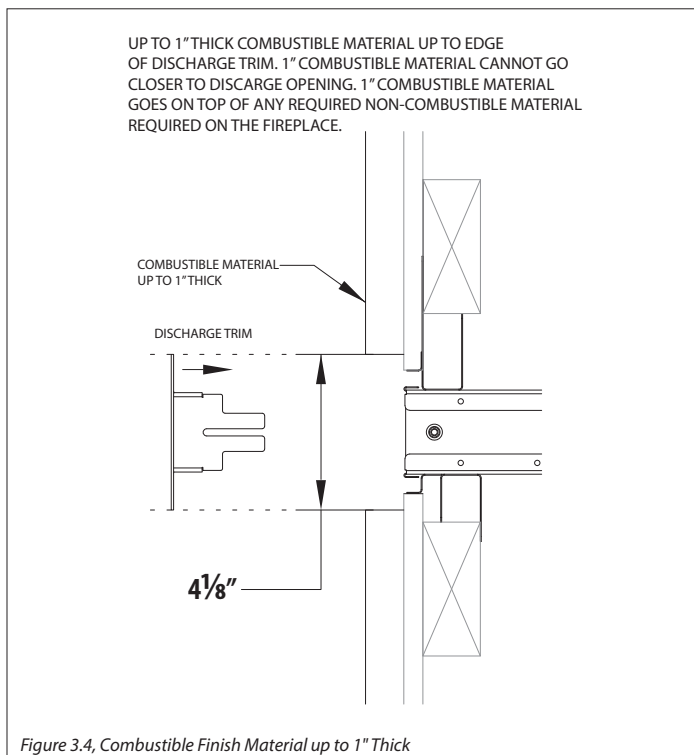

Figure 3.4, Combustible Finish Material up to 1" Thick
- See Figure 3.4 on page 10 for up to 1" thick combustible material installation around the discharge trim of the KZK air discharge opening.